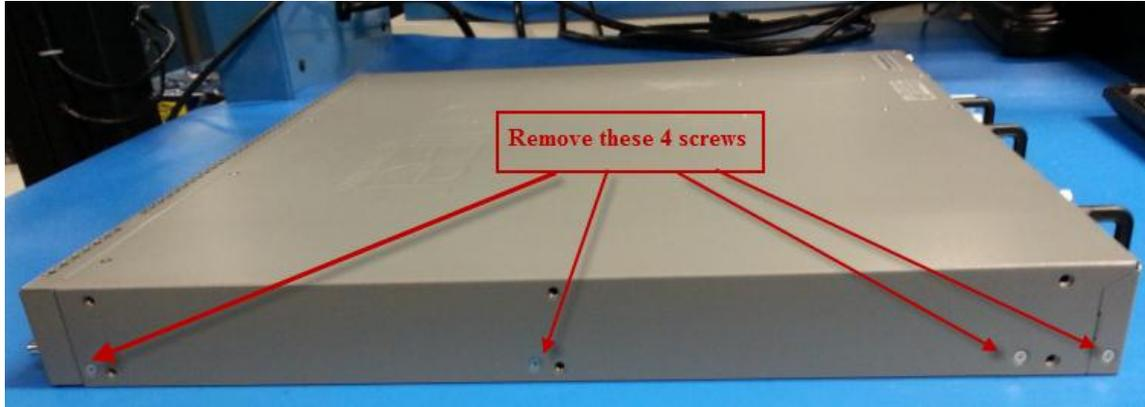

Figure 3-3: Right side screws
3. Remove four screws from right side of chassis (figure 3-3)